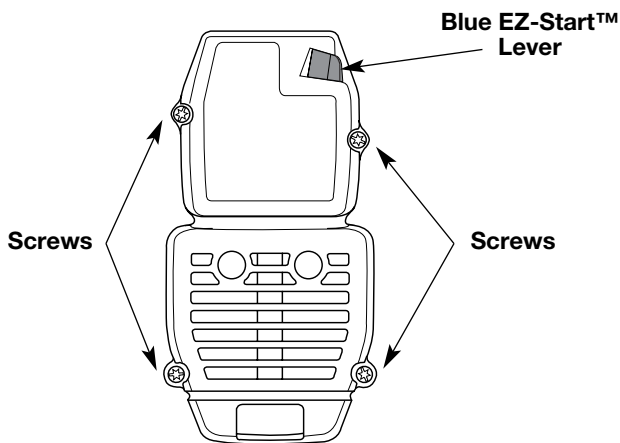

Fig. 21
1. Remove the four (4) screws securing the air filter/muffler cover (Fig. 21). Use a flat blade or T20 Torx bit screwdriver.
2. Insert the four (4) screws into the holes in the air filter/muffler cover (Fig. 21) and tighten.